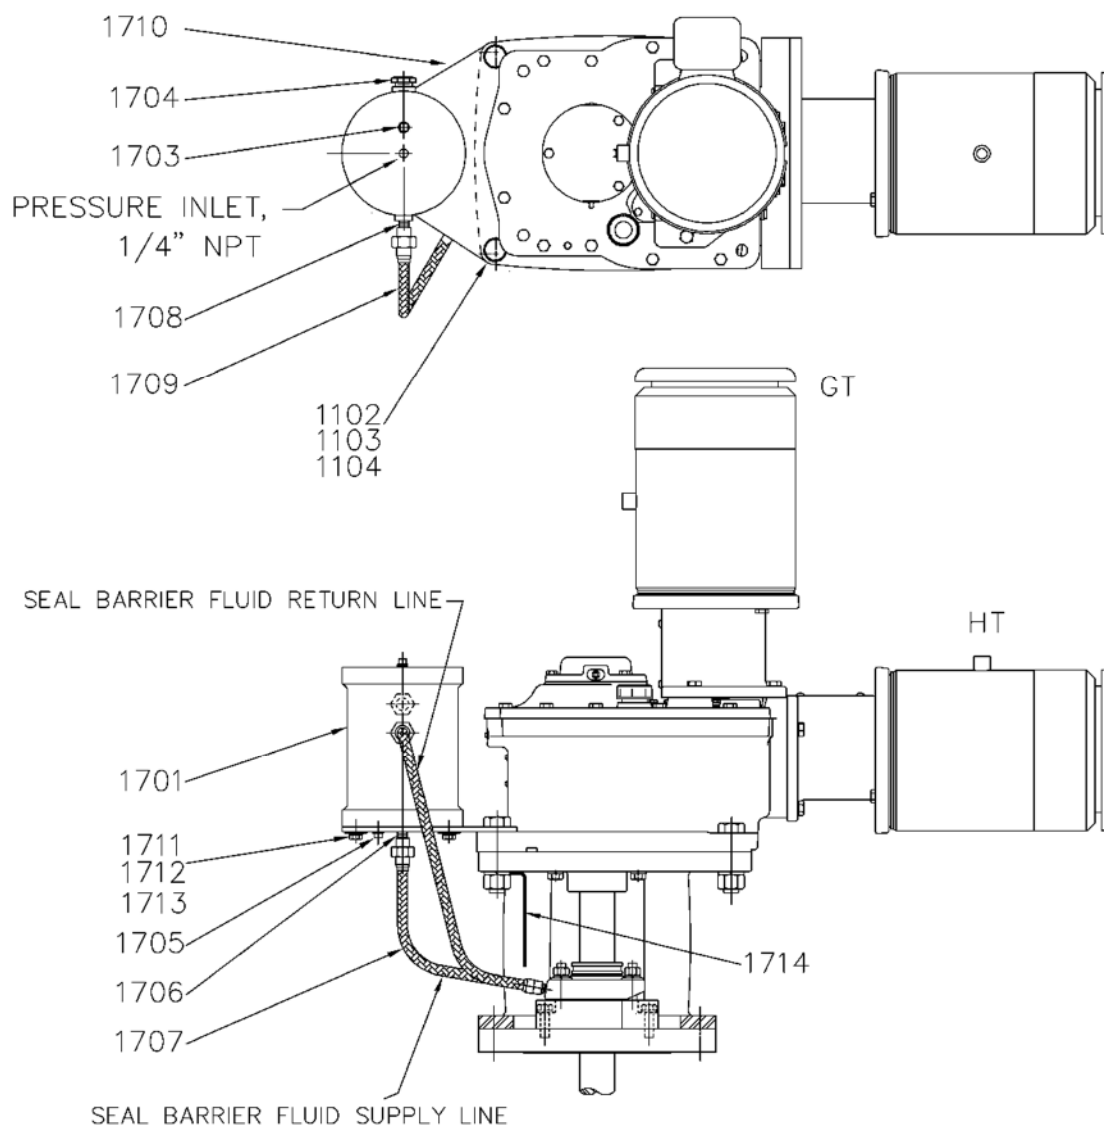

Figure 30. Mechanical Seal (Cartridge Type) Lubricator
1. Assemble the lubricator-mounting bracket [1710] to the mechanical seal lubricator [1701]. Refer to Figure 30, page 65. Install mounting bolts, flatwashers and lockwashers [1711, 1712, 1713]. Torque bolts to the value shown in the APPENDIX, Page 105.